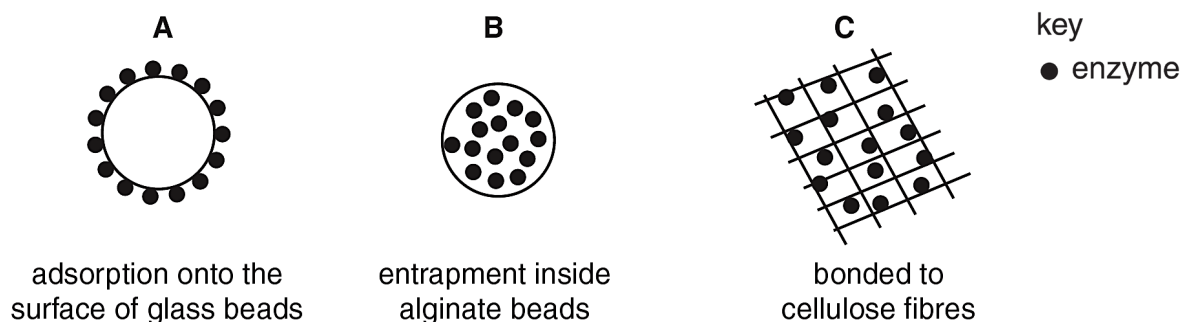

Fig. 2.3
Fig. 2.3 shows three ways of immobilisation of enzymes.
A student carried out an investigation to compare the activity of the enzyme lactase that had been immobilised in the three different ways shown in Fig. 2.3.
- lactase immobilised via the three methods shown in Fig. 2.3